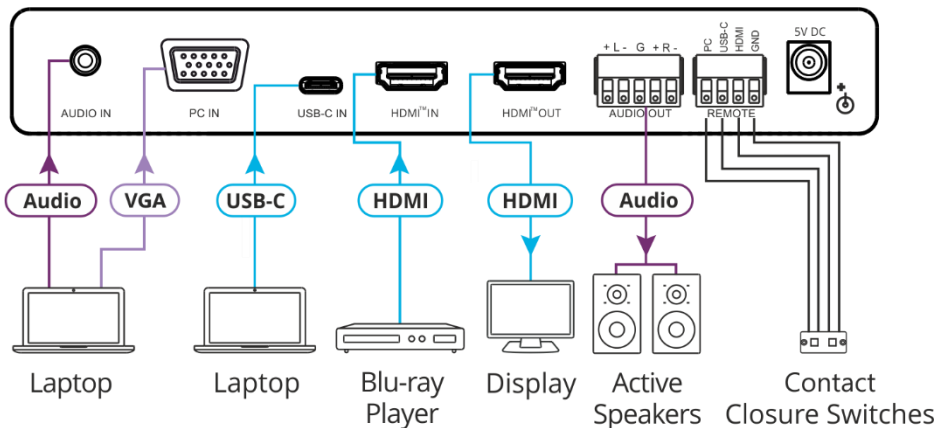

Figure 5: Connecting to the VP-426C Rear Panel
To connect the **VP-426C** as illustrated in the example in Figure 5:
- The unbalanced stereo audio PC source to the AUDIO IN 3.5mm mini jack (11).
- The VGA signal to the PC 15-pin HD connector (12).
- Connect a USB-C source (for example, a laptop) to the USB-C port (13).
- Connect an HDMI source (for example, a Blu-ray player) to the HDMI IN connector (14).
- Connect the HDMI OUT connector (15) to an acceptor (for example, a display).
- Connect the AUDIO OUT 5-pin terminal block connector (16) to a balanced stereo audio acceptor (for example, Kramer **TAVOR 6-O** active speakers).
- Connect the REMOTE 4-pin terminal block connector (17) to contact closure switches (for example, Kramer **RC-22TB**).
- Connect the power adapter to the **VP-426C** power connector (18) and to the mains electricity (not shown in Figure 5).
To connect the VP-424C as illustrated in the example in Figure 5:
1. Connect a USB-C source (for example, a laptop) to the USB-C port (13).
2. Connect an HDMI source (for example, a Blu-ray player) to the HDMI IN connector (14).
3. Connect the HDMI OUT connector (15) to an acceptor (for example, a display).
4. Connect the REMOTE 4-pin terminal block connector (17) to contact closure switches (for example, Kramer RC-22TB).
5. Connect the power adapter to the VP-424C power connector (18) and to the mains electricity (not shown in Figure 5).